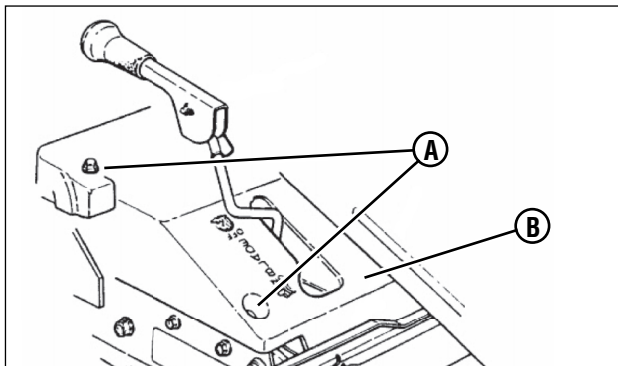

Figure 21: Removing the drive belt cover
2. Remove the four self-tapping screws (A, Figure 21), two on each side of mower drive belt cover (B).